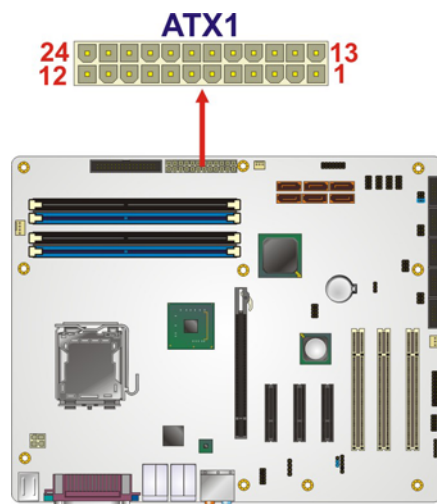

Figure 4-3: ATX Power Connector Pinout Locations
- CN Location:** See **Figure 4-3**